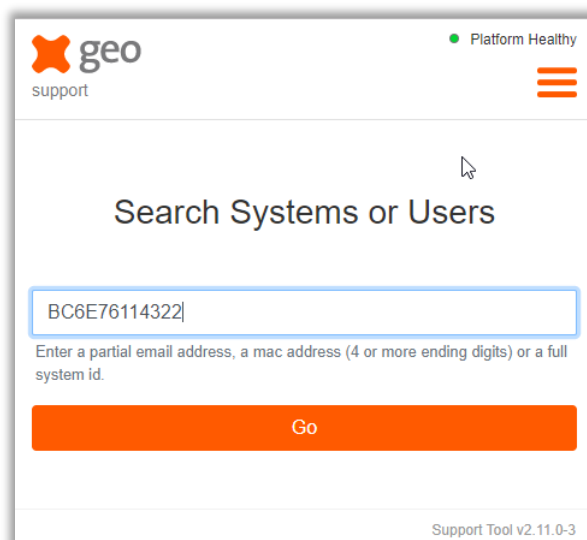

Fig 6.1 - Support Tool - search using mac address
- Search for the system using this MAC address in the support tool (see Fig 6.1)